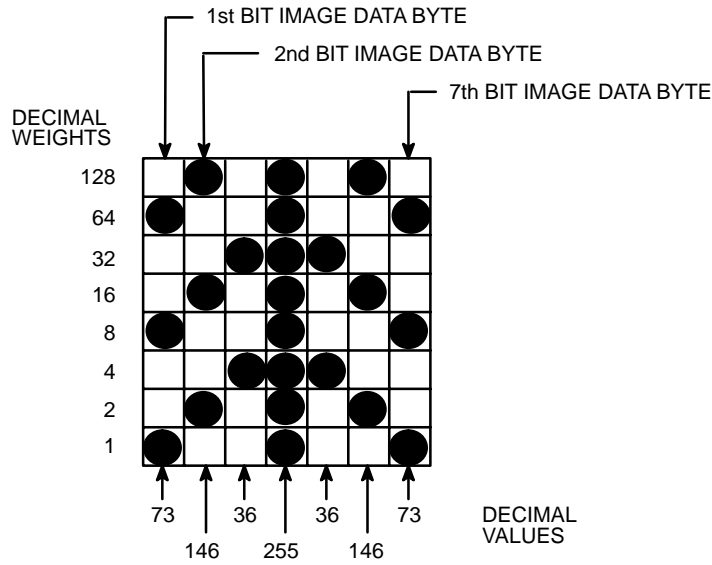

Figure 4-1. Bit Image Pattern Plan
2. Determine the decimal equivalent of each Bit Image data byte required to produce the pattern (Figure 4-1).
The following sample program written in BASIC produces Single Density Bit Image graphics of the pattern shown in Figure 4-1. The 7 data bit pattern is repeated 40 times. The printed result of running the program is shown in Figure 4-4.